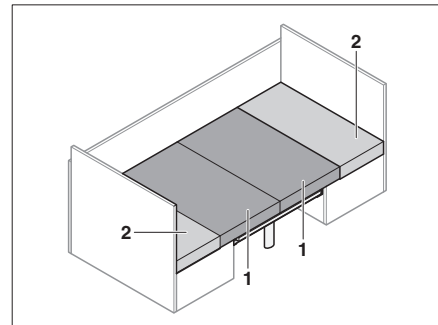

Fig. 63 After conversion
- Pull the seat cushions (Fig. 63,1) into the centre.
- Insert the back cushions (Fig. 63,2) between the seat cushions and the wall.